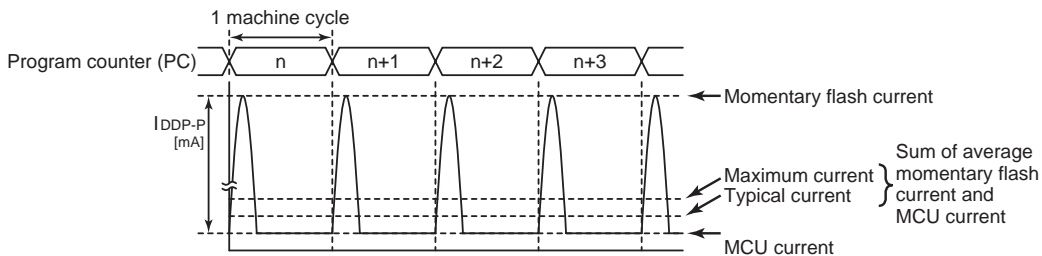

Figure 25-4 Intermittent Operation of Flash Memory
- Note 7: When a program operates in the flash memory or when data is being read from the flash memory, the flash memory operates intermittently, and a peak current flows, as shown in Figure 25-4. In this case, the supply current IDD (in NORMAL1, NORMAL2 and SLOW1 modes) is defined as the sum of the average peak current and MCU current.